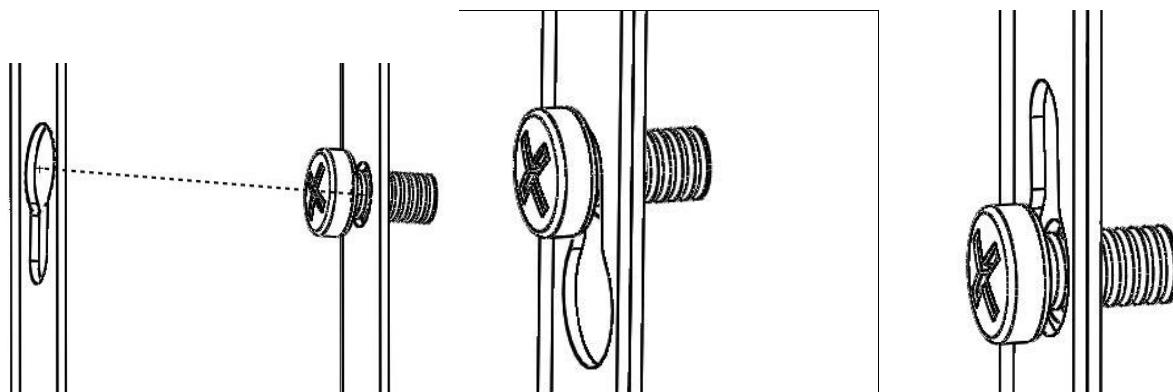

Fig. 10
Fasten the top metal pieces together (BGL and BGP) with 2 screws M6 (ŚM6) (fig. 6.3) and then push them onto the screws M5 of the hearth shield (OP) as in fig. 6.1. The 4 screws M5 (ŚM5) must also be driven into the sides of the top metal pieces as in fig. 6.2, leaving approx. 2 mm clearance between the head of the screw and the top metal piece. They will be used for hanging the top door (DG) – see fig. 10.